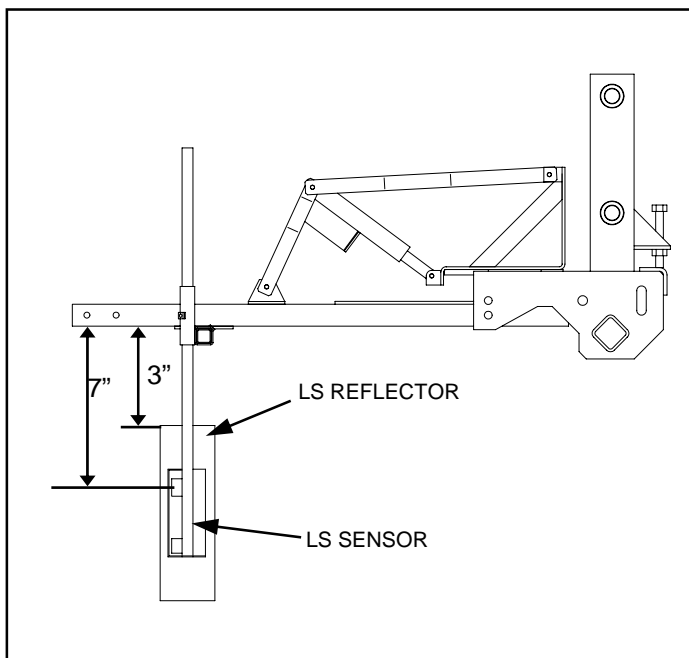

FIG 3.26
6. With a tape measure, set the center of the top Tasselrol[®] sensor to a depth of seven inches (fig. 3.26). Set the top edge of reflector to three inches (fig. 3.26).